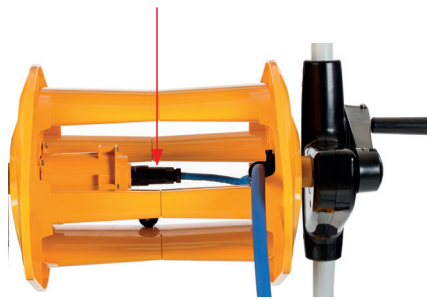

Figure 3: Roller Inner Connection
- Important:** Every two or three cleaning sessions, disconnect the floating cable from the roller inner connection (Figure 3), unroll the entire cable and re-arrange it on the roller as required.